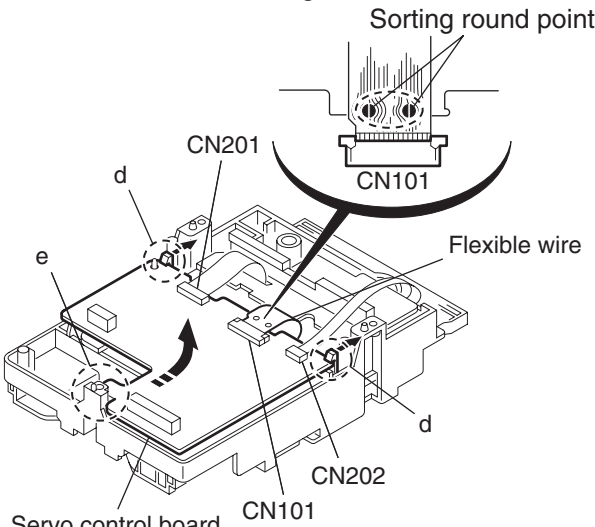

Fig.4
■ Removing the servo control board (See Fig.4)